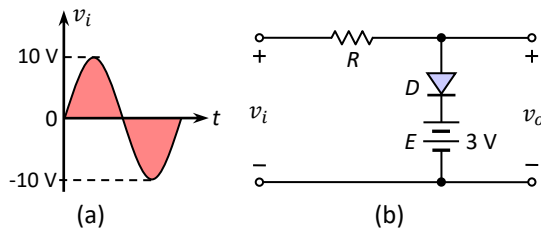

Fig.3-121: (a) Input signal, and
40. For the given input waveform and clipper circuit in Fig.3-121 determine and sketch the output waveform assuming i) An ideal diode and ii) A practical Si diode.